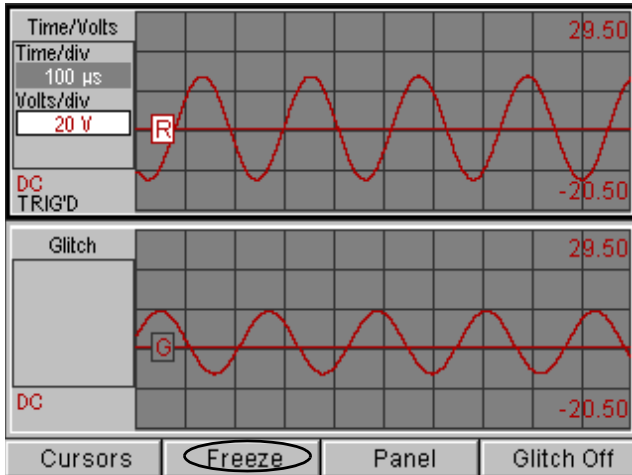

Figure 7.35: Lab Scope Screen, Glitch On - Freeze Function Key
- If Glitch is on, the screen looks similar to Figure 7.35. (If Glitch is turned on while DMM is on, DMM automatically turns off.)